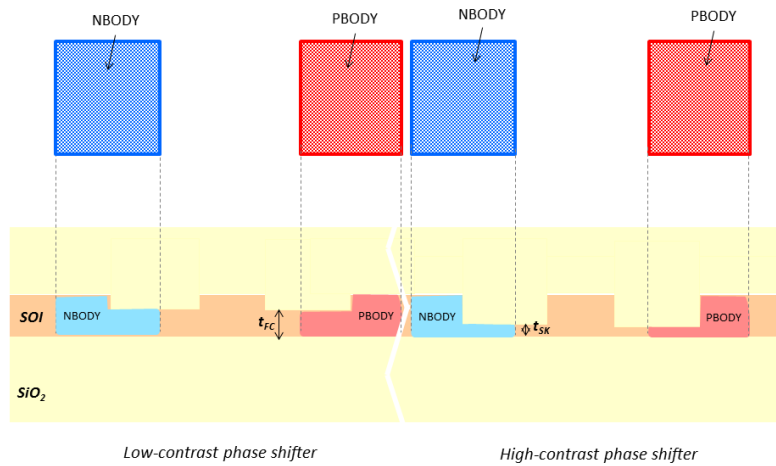
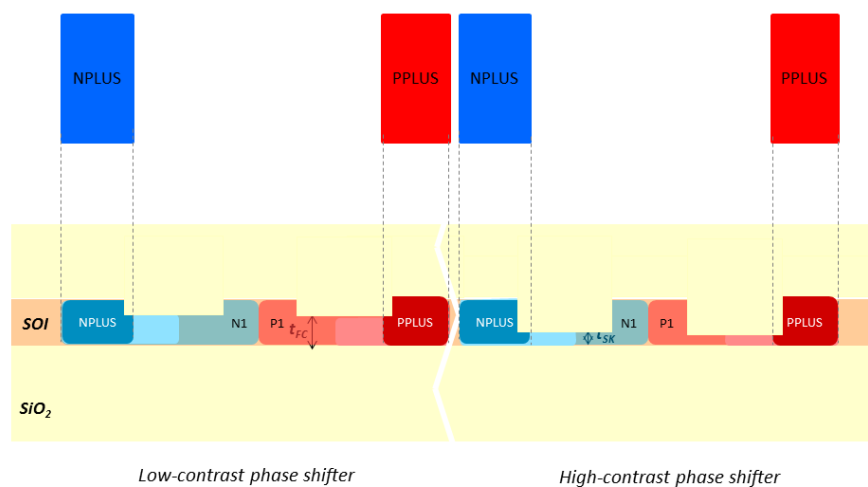

Figure 7: SOI doping: NBODY and PBODY implants for low-resistance paths, cross-section and mask layers.
Figure 9: SOI doping: Cross-section and mask layers for NPLUS and PPLUS, implants for contacting.
- SOI doping (NBODY, PBODY, N1, P1, N2, P2, NPLUS, PPLUS): Figure 7, Figure 8 and Figure 9.